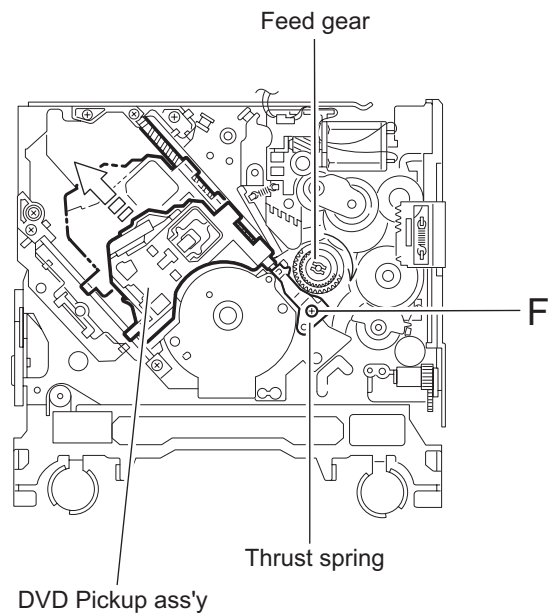

Fig.18
3.2.9 Removing the DVD pickup assembly (See Fig.18 ~ 20)